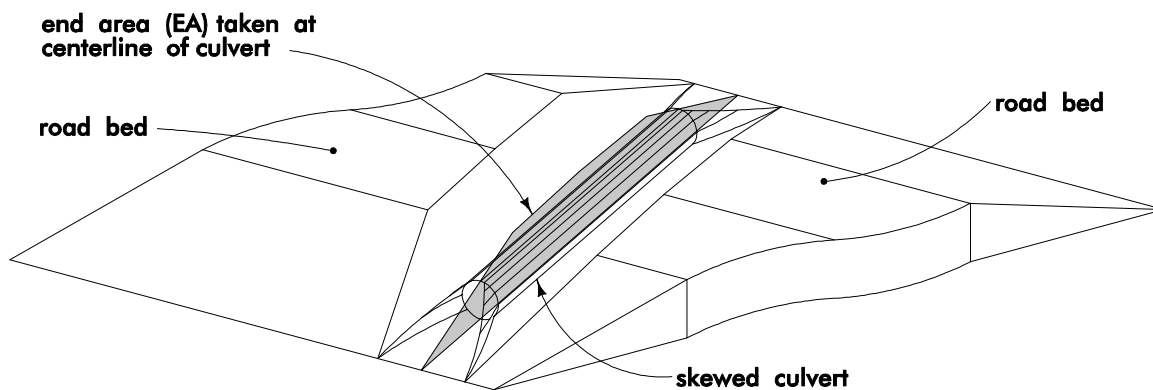
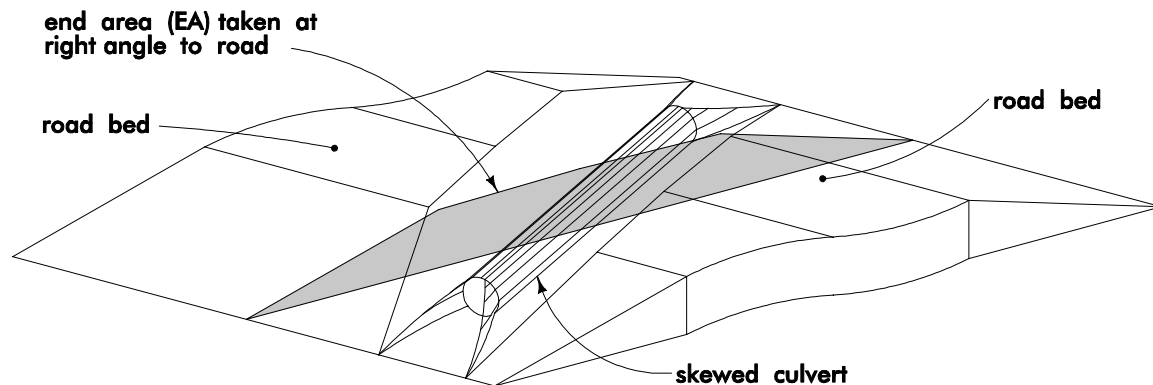

Figure 2: EA taken at centerline of culvert. Skew not included when calculating Q.
Figure 3: EA taken at right angle to roadway. Skew angle must be included when calculating Q.
End area (EA) is normally determined along the centerline of the culvert (Figure 2), but may be determined at a right angle to the roadway (Figure 3). If EA is determined along the centerline of the culvert, then it is not necessary to include the skew angle when calculating Q.